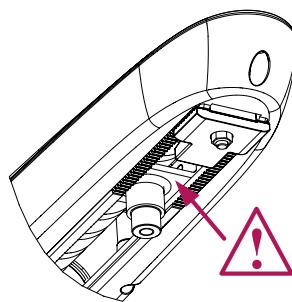

Figure 14. After the drive is mounted, the connector must not contact the enclosure
- With the drive released, make sure that the leaf is moving smoothly when opened or closed, and the drive does not hit the post or the gate leaf. Check the opening angle of the leaf. There should be no friction between the slide nut of the drive and the enclosure (*fig. 14*).